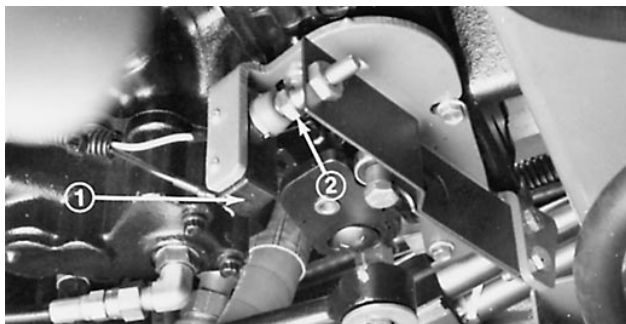

Figure 71
1. Make sure the traction pedal is in the neutral position. Loosen the jam nut on the switch adjusting screw (Fig. 71).